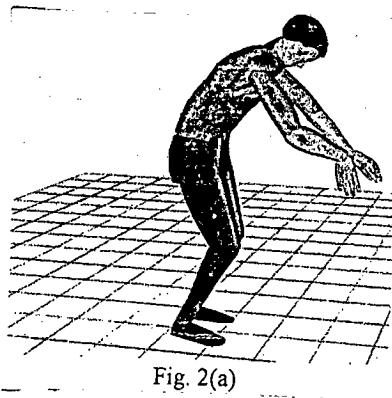

Fig. 2(a)
1. (a) "Doing any work by flexing the trunk may lead to more compressive and shear stresses at L5/S1 joint without any load at any hand. With load at any hand those stresses increase further." Justify these statements with necessary schematics. (15)
- (b) How strengthening core muscle may save you from spinal disk degeneration at an early age? Explain from biomechanical point of view. (6)
- (c) How does NIOSH lifting equation agglomerate physiological and psychophysical approaches? Why this congregation is necessary? Explain. (8)
- (d) Discuss the main shortcomings of: (6)
2. (a) Evaluate final OWAS and final RULA scores considering the posture shown in Fig. 2(a). (20)
- Approximate other necessary data from Fig. 2(a).
- (b) How can you restore bad neck curve? Explain with necessary schematics. (8)
- (c) Consider again Fig. 2(a) and answer the following questions: (7)